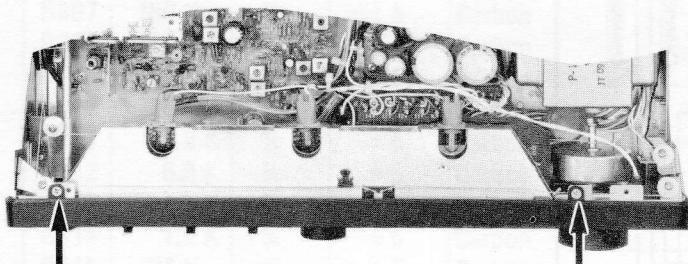

Figure C1
- Remove two screws each from the top and bottom of the Front Panel. (Figure C1, C2)